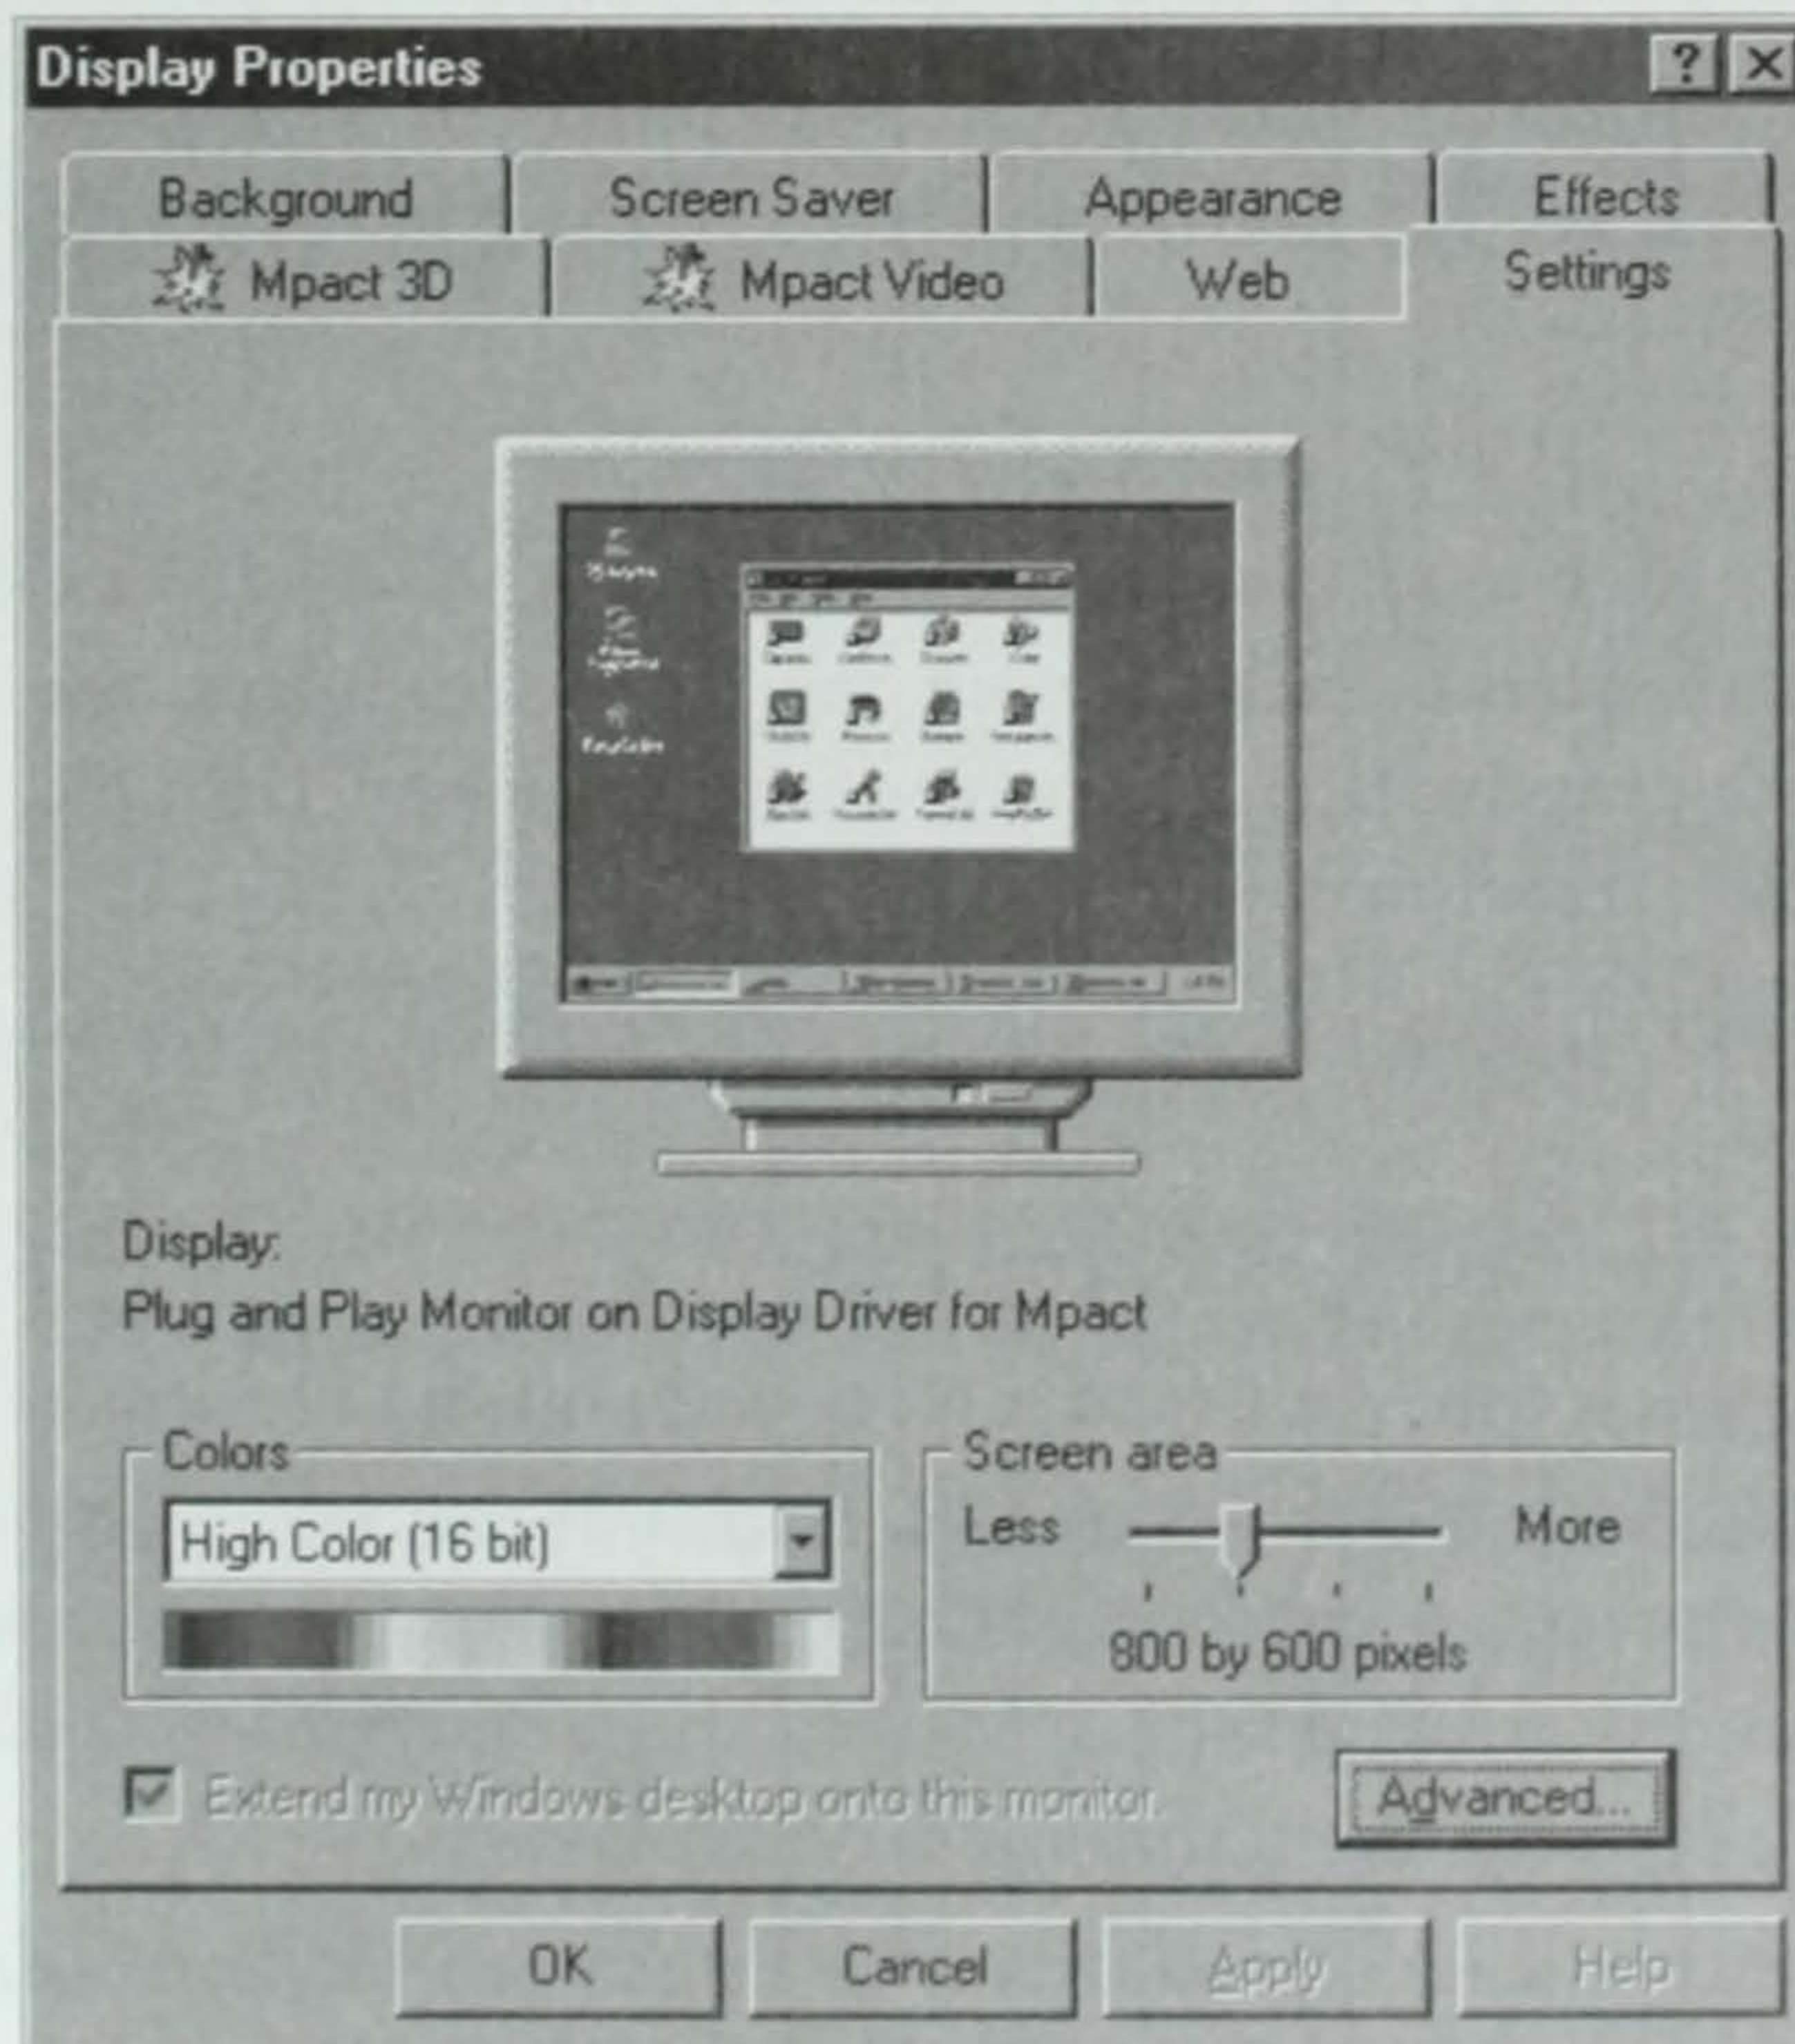

Figure 10.3 Control Panel/Display/Settings toward multiple monitors.
2. On the Devices tab, click Add. See Figure 10.3.